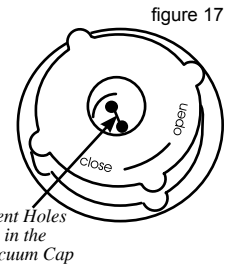

figure 17
- Be sure that the vent holes in the Vacuum Cap are not blocked or obstructed by the food (figure 17).